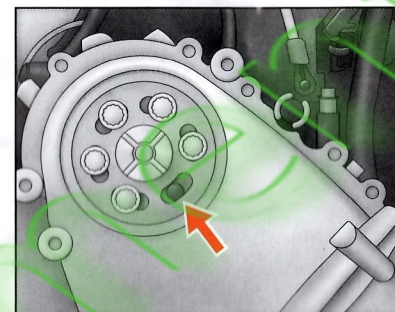

Fig.38
- (5) At TDC on No.1 cylinder the Camshaft Locking Pins (Part No.D) will easily locate through the slots in the camshaft sprockets, the camshafts and into the datum holes in the cylinder heads. (Fig.38)